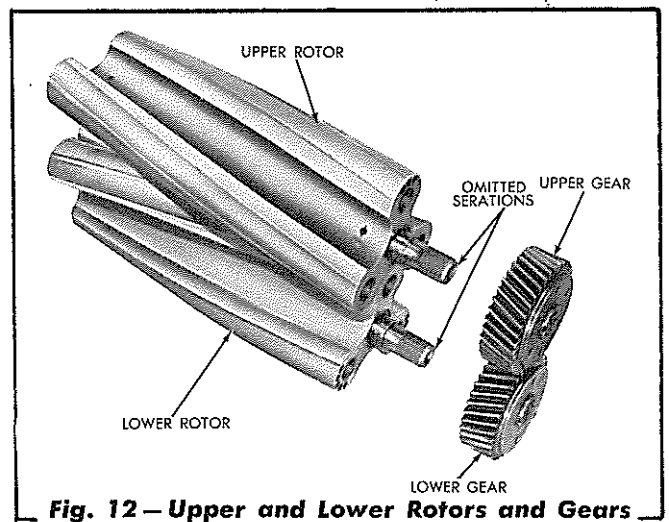

Fig. 12 – Upper and Lower Rotors and Gears
- b. Place the rotors together with the right-hand rotor on top and with the rotors in mesh and turned so that the omitted serration on the drive end of each rotor shaft is facing up as shown in Fig. 12, then slide the rotors into the housing. Use an oil seal pilot on the short end of each rotor shaft to expand the oil seals in the front end plate and to guide the ends of the shafts into the end plate.